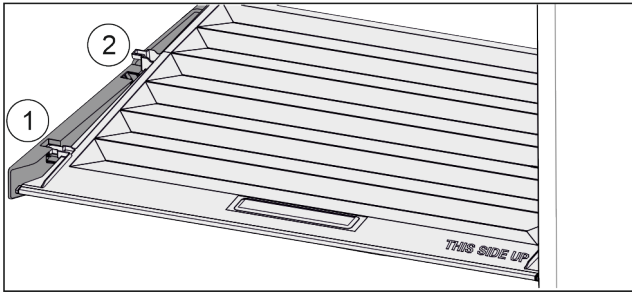

Fig. 95
- ▶ Pull the lid up at the front to the opening in the retaining parts Fig. 95 (1).
- ▶ Lift from the back and pull it up and out Fig. 95 (2).